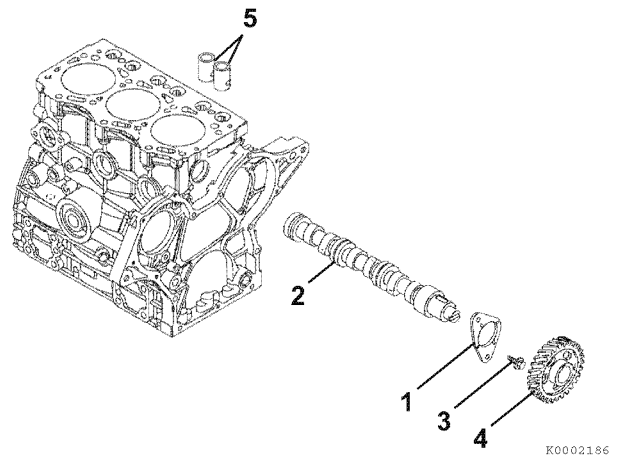

Figure 6-48
2. Remove two bolts (Figure 6-48, (3)) retaining the camshaft thrust plate (Figure 6-48, (1)).
3. Extract the tappets (Figure 6-48, (5)) through the top of the cylinder block. Mark the tappets so they can be reinstalled in the same location.
4. Slowly pull the camshaft (Figure 6-48, (2)) assembly out of the engine being careful not to damage the front camshaft bushing.
5. Remove the camshaft gear (Figure 6-48, (4)) only if the gear or camshaft require replacement. Use a knife-edge puller and a press to remove the gear. The gear is a shrink-fit and will need to be heated to 356 - 392 °F (180 - 200 °C) to remove.